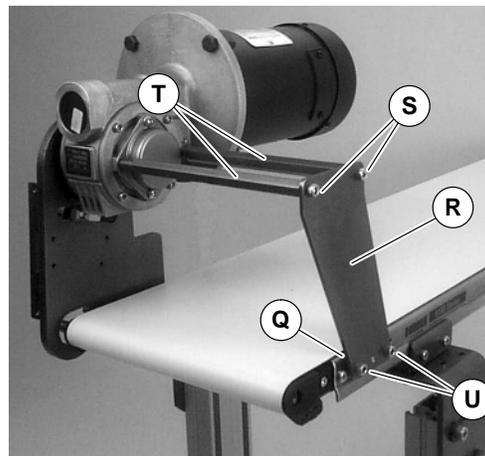

Figure 9
- Install hex posts (T of Figure 9). Attach wide end of support plate (R) to hex posts with screws (S). Attach narrow end of support plate to conveyor, using spacer (Q) and screws (U). Tighten screws to 80 in-lb (9 Nm).